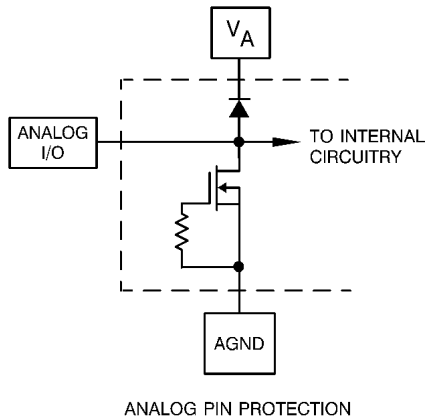
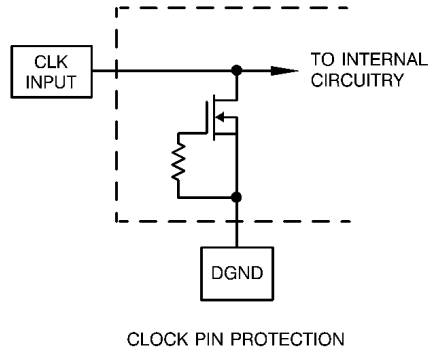
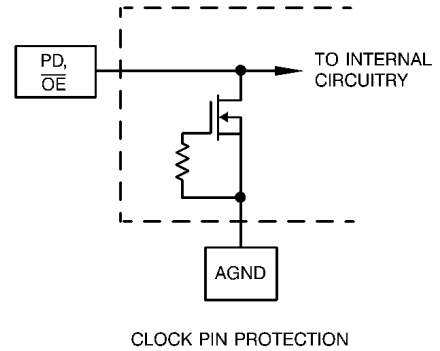

Figure 1.
Figure 2.
Figure 3.
- (1) The inputs are protected as shown below. Input voltage magnitudes up to 500mV beyond the supply rails will not damage this device. However, errors in the A/D conversion can occur if the input goes above V_A or below AGND by more than 300 mV. See Figure 1, Figure 2 and Figure 3.
- (2) Typical figures are at $T_A = T_J = 25^\circ C$, and represent most likely parametric norms.
- (3) Tested limits are specified to TI's AOQL (Average Outgoing Quality Level).
- (4) When the input signal is between V_{REF+} and $(V_A + 300mV)$, the output code will be 3FFh, or all 1s. When the input signal is between $-300 mV$ and V_{REF-} , the output code will be 000h, or all 0s.